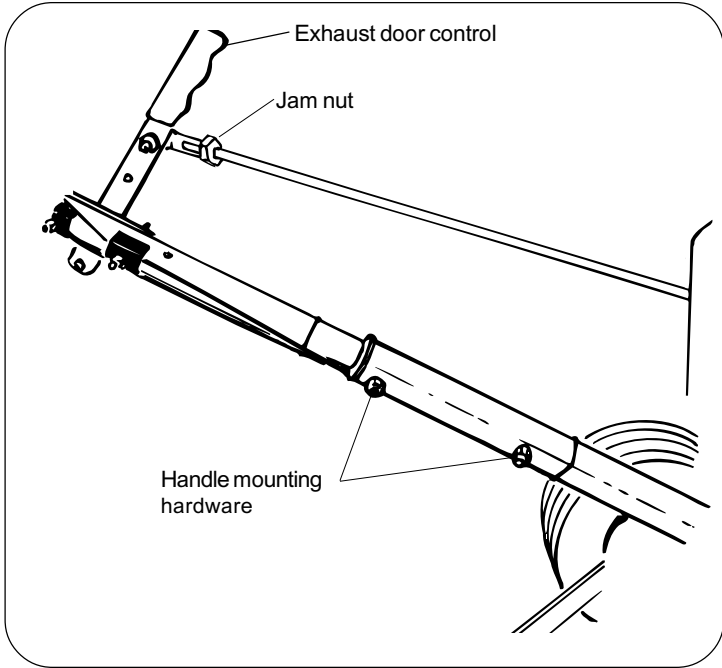

Fig. 6
1. Attach upper handle using pre-mounted hardware on each side (See fig. 6, Page 5).